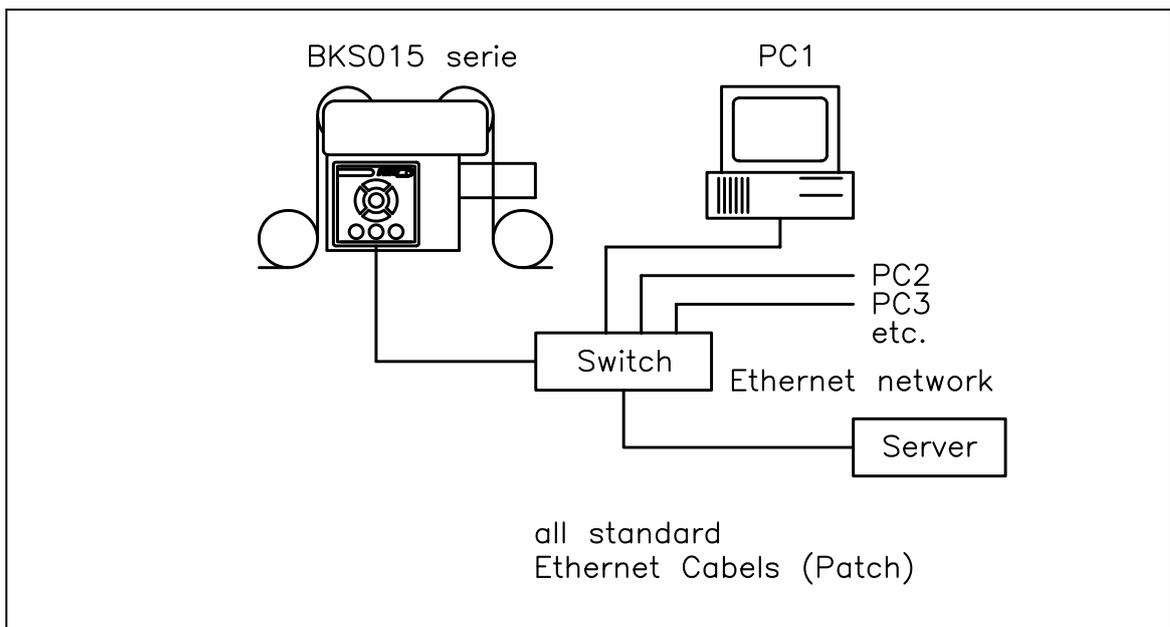

Fig. 13: BKS015 configuration in a LAN (Local Area Network).
1. Connect the “cross over cable” to both the BKS015 and to the appropriate port on the desktop or laptop computer (see **Fig. 13** and **14**).